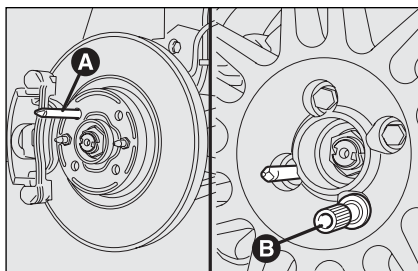

fig. 10
- ☐ Tighten the pin **A**-fig. 10 in one of the fastening bolt holes on the wheel hub;